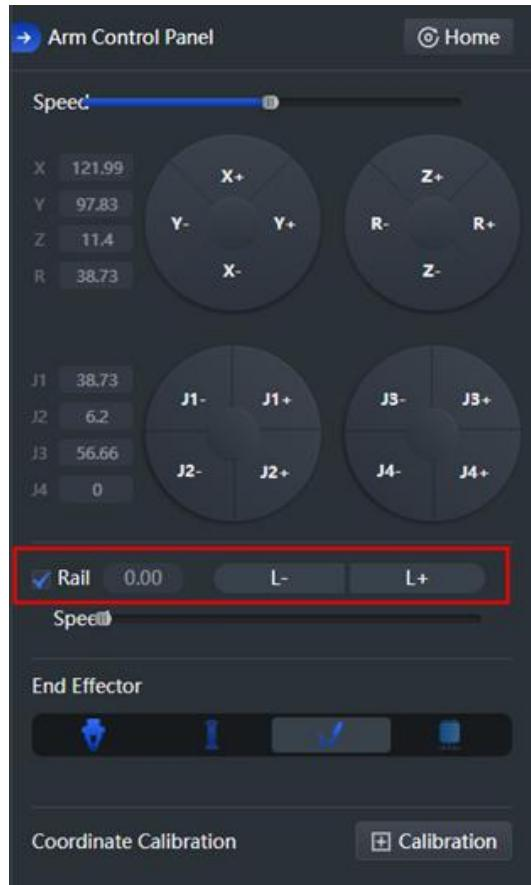

Figure 5.39 Enable sliding rail
**Step 1** Enable **Rail** on the arm control panel, as shown in Figure 5.39.